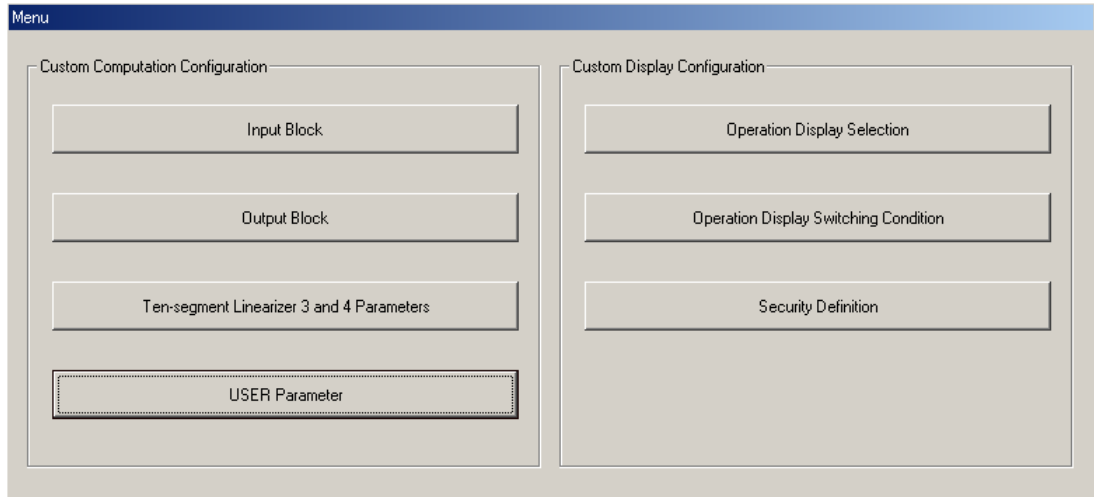
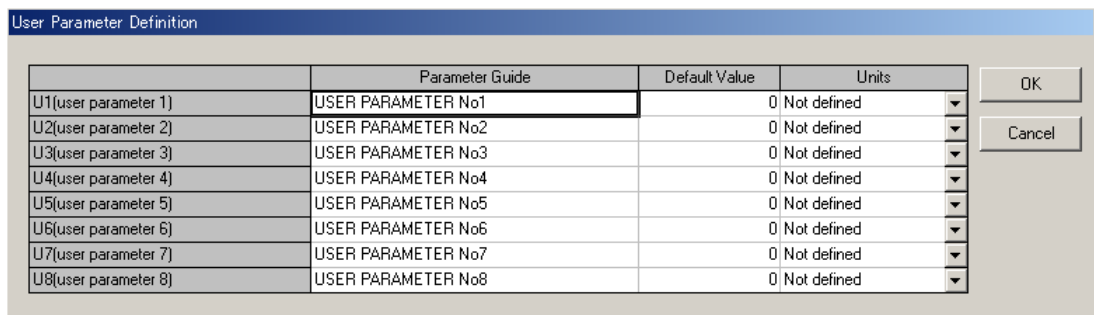

Figure 4.5.1 [Custom Computation Configuration Menu] Dialog Box
Figure 4.5.2 [User Parameter Definition] Dialog Box
- (1) In the [Custom Computation Configuration Menu] dialog box (Figure 4.5.1), click the <USER Parameter> button. The [User Parameter Definition] dialog box (Figure 4.5.2) appears.